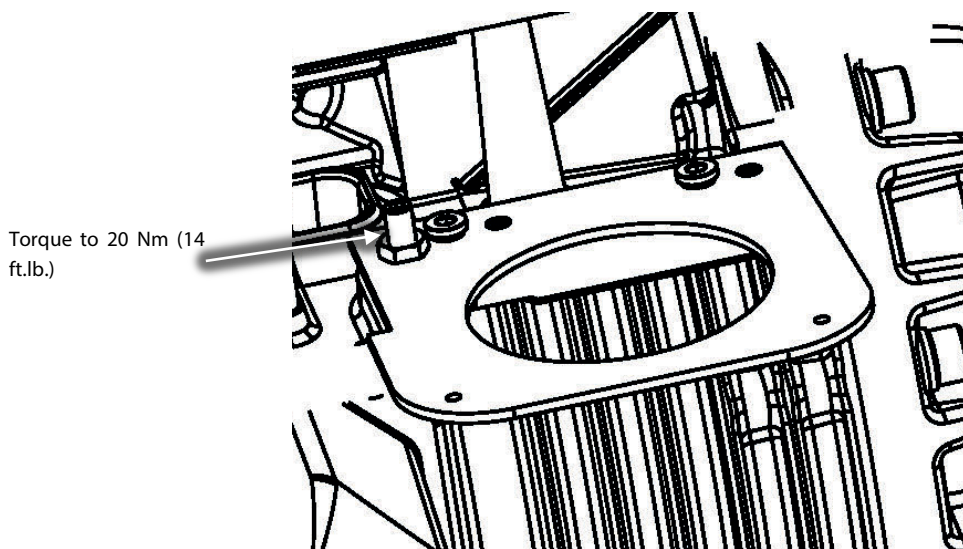

Figure 2 – Ground Location
9. Disconnect the Soft Start ground wire by removing the nuts and mains input ground wire from the ground post on the compressor housing at 3 phase connection point. Refer to Figure 2 (Ground Location).